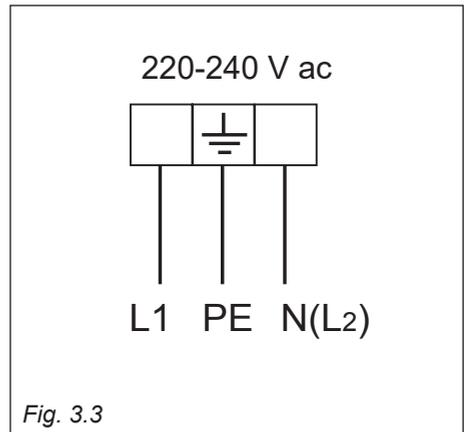

Fig. 3.3
- Connect the wires to the terminal block "B" as shown in the diagram in figure 3.3.